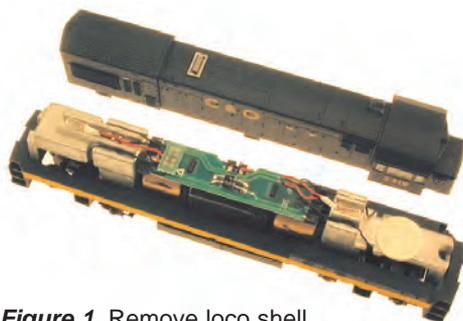

Figure 1. Remove loco shell
1. Carefully remove the locomotive shell (*Fig. 1*). Note the orientation to the frame for correct reinstallation.